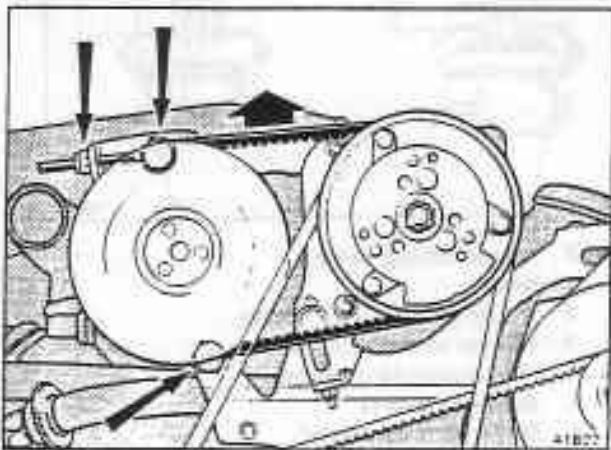

Fig. F4-3 Air pump drive belt adjustment and tension check point
The belt tension must be checked at a point midway between two pulleys (see fig. F4-3) by use of a belt tension meter.
3. Unscrew and remove the pivot setscrews (see fig. F4-3).